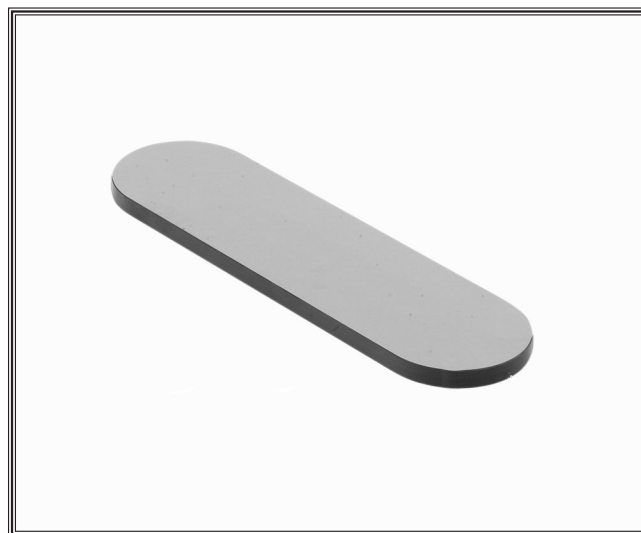

Figure 61. Zero-clearance table insert.
- Zero-Clearance Table Inserts can be purchased or made from wood and substituted for the factory inserts. The advantage in these devices is that there will only be as much space between the blade and the insert as the blade requires. Many woodworkers have a different insert for different heights and blades. Zero-clearance table inserts result in clean cuts with less tear-out and a reduced chance that a small piece of stock will be pulled down inside the saw or will be kicked back. **Figure 61** shows an example of a "blank" zero-clearance insert. When making a zero-clearance table insert, never hold the insert in place with your hands or try to lower the insert onto a moving blade. Hold or clamp the insert to the table with a sacrificial board, and use a smaller diameter blade to plunge the initial cut through the insert.